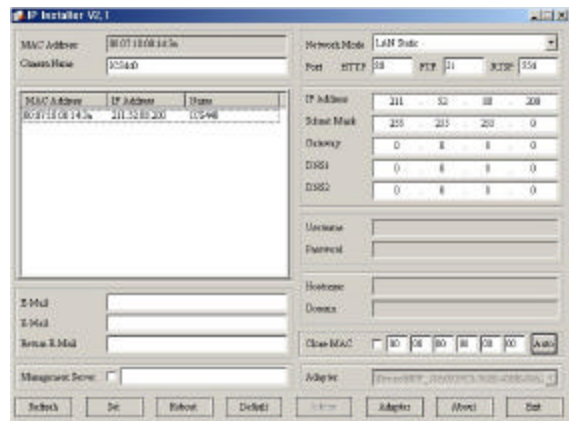

Fig 2 -6 Network Setting for LAN Static
- ? Apply power to the product and connect it to the installation PC with a cross-over LAN cable as shown in Figure 2 -1.